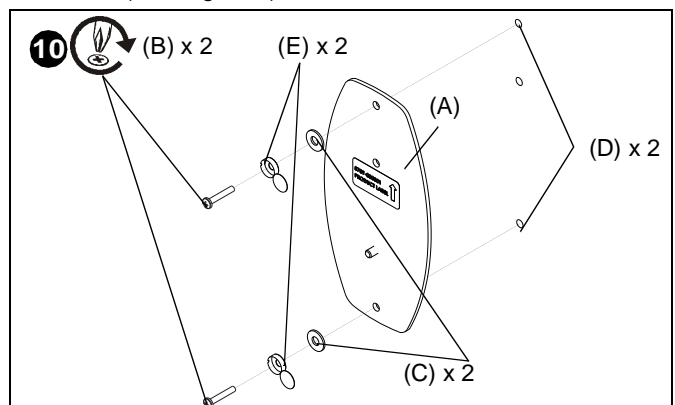

Figure 5
9. Place adapter plate (A) over anchors and align mounting holes on mount with holes in anchors. (See Figure 5)
10. Use two 1/4-20 x 1 3/4" Phillips pan machine screws (B), two screw caps (E) and two 1/4" washers (C) to secure adapter plate to anchors (D) using top and bottom mounting holes. (See Figure 5)